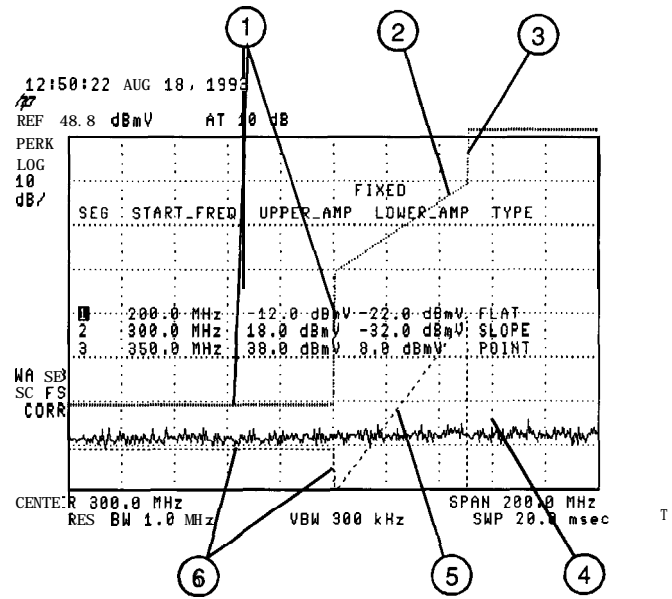

Figure 3-7. Segment Types
1. Flat draws a zero-slope line between the coordinate point of the current segment and the coordinate point of the next segment, producing limit-line values equal in amplitude for all frequencies or times between the two points. If the amplitude values of the two segments differ, the limit-line will “step” to the value of the second segment. See Figure 3-7.
Figure 3-7 demonstrates the different segment types.